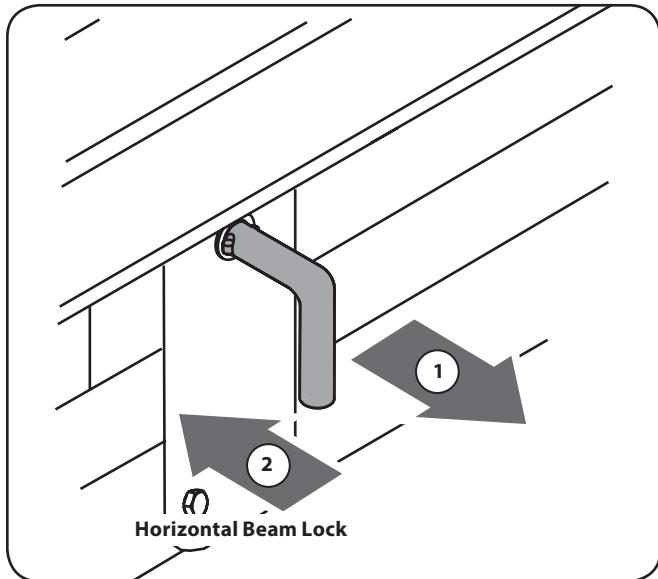

Figure 6-3
- b. The horizontal beam lock is self-locking. The spring loaded lock will snap into place when the beam is lowered into position. See Figure 6-3.